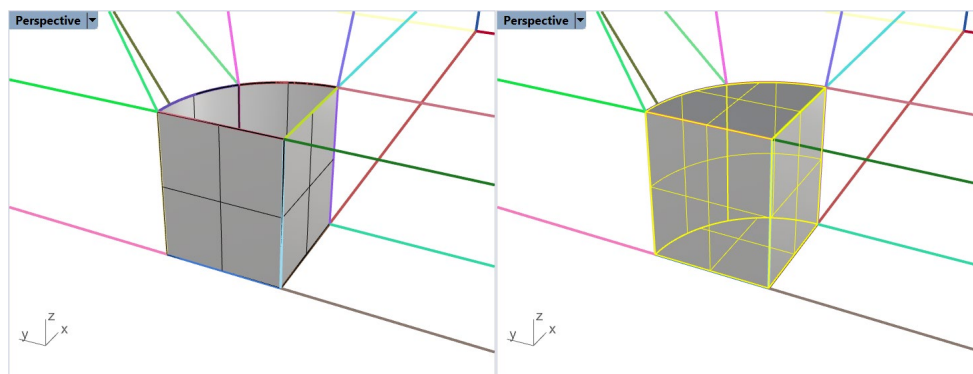

Figure 46: Building the last solid block in the model.
18. For the remaining central block, build only vertical surfaces using the **\_Loft** command and join all four of them with the **\_Join** command (Figure 46, left).
19. Select a single polysurface as in Figure 46, left and cap the holes with the **\_Cap** command (Figure 46, right). The resulting solid is the last block needed before meshing.